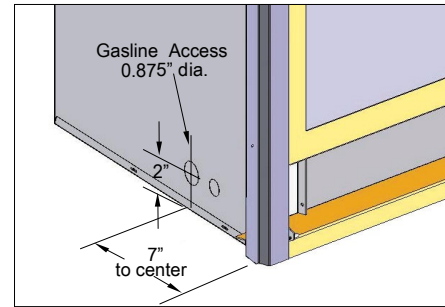

Figure 23. Gas line access.
- See **Figure 23** for location of gas line access.